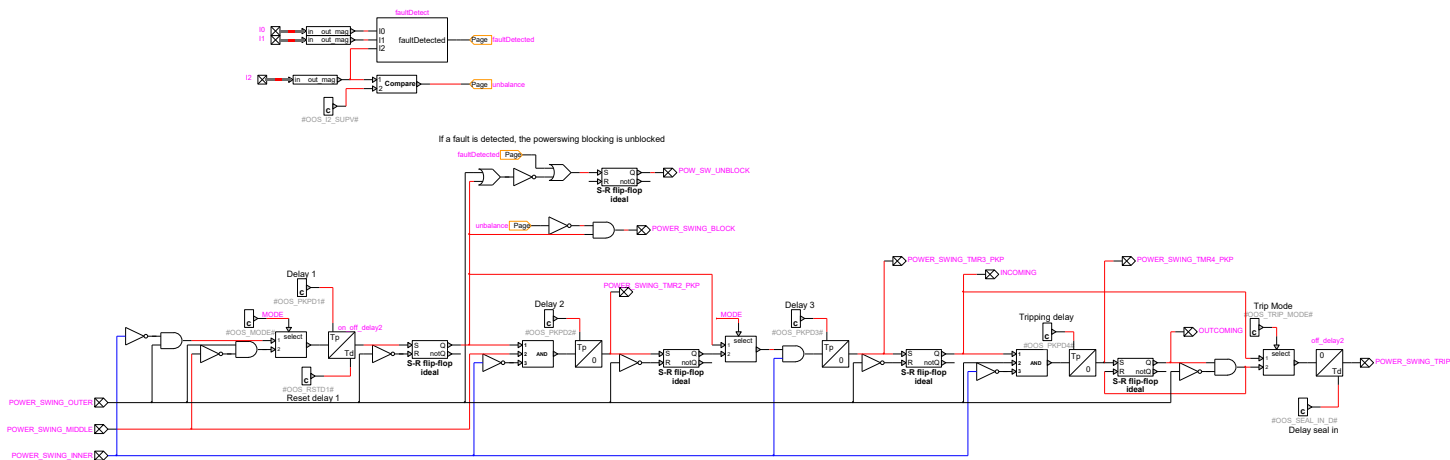

Figure 2-5 Power swing logic (see subcircuit for more details).
- ❑ **Reset delay 1:** See the diagram of Figure 2-5
- ❑ **Tripping delay:** See the diagram of Figure 2-5
- ❑ **Delay seal in:** See the diagram of Figure 2-5